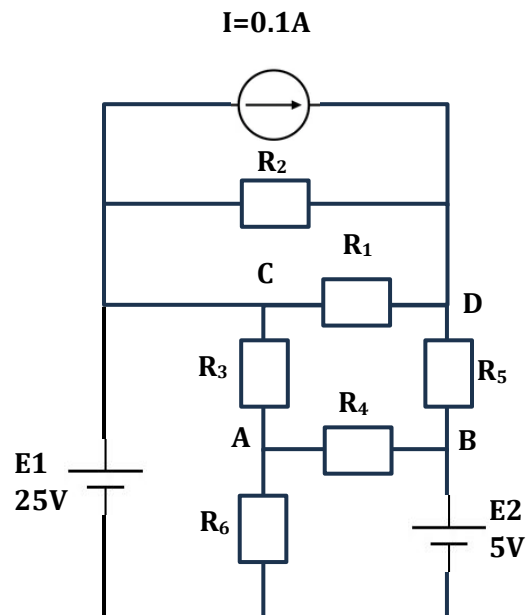

Figure 5.1
Consider the circuit illustrated in Figure 5.1, which is powered by three independent sources. Calculate the currents I_1 , I_4 , and I_6 flowing through R_1 , R_4 , and R_6 by applying the superposition theorem.
Consider the circuit illustrated in Figure 5.1. Calculate the currents I_1 , I_4 , and I_6 flowing through R_1 , R_4 , and R_6 by applying Thévenin's theorem.
Consider the circuit illustrated in Figure 5.1. Calculate the currents I_1 , I_4 , and I_6 flowing through R_1 , R_4 , and R_6 by applying Norton's theorem.
1. Prove the equivalence of the diagrams in Figures 5.1 and 5.4, by deducing the value of E_3 .
Using the same circuit setup from Figure 5.1.
Using the same circuit configuration from Figure 5.1: Apply Norton's theorem to measure the short-circuit Norton current I_N for each load, and deduce the Norton resistance R_N . Complete the table below: